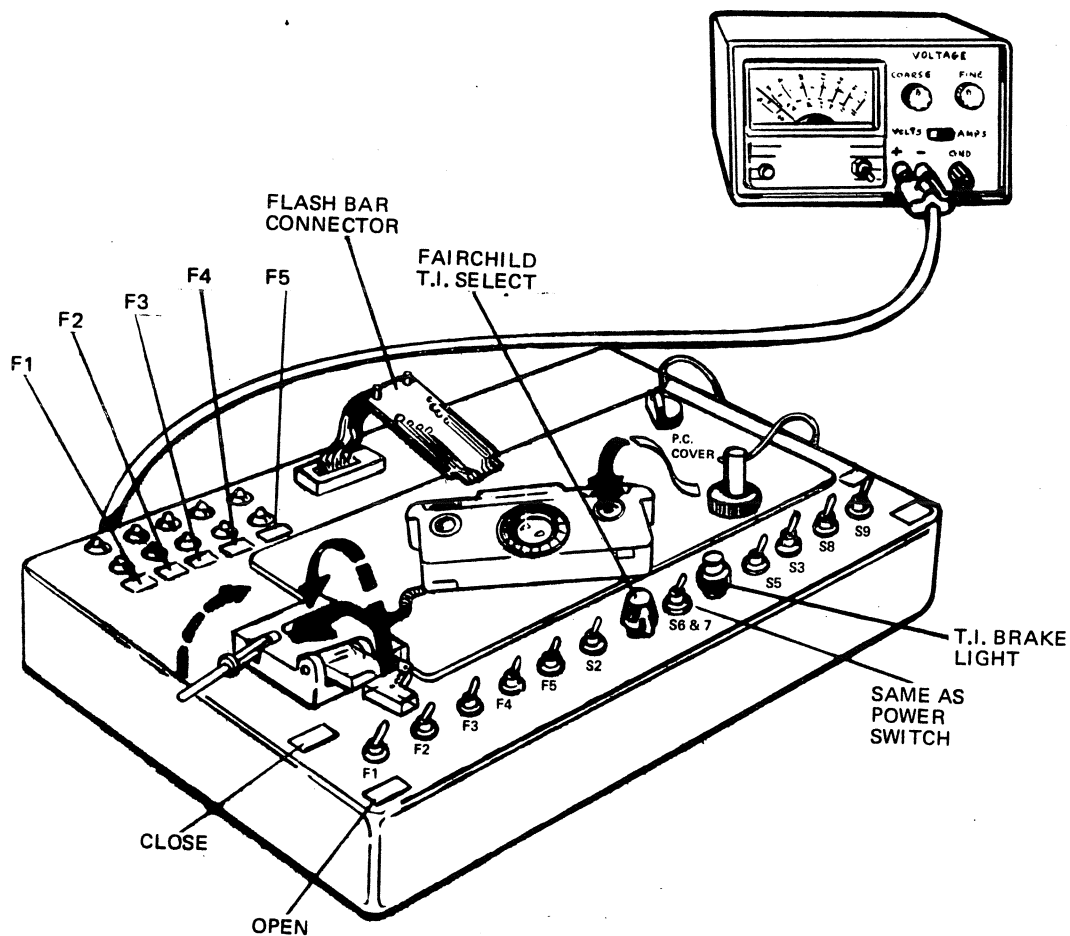

FIGURE 3-28 CAMERA BACK SIMULATOR SYSTEM
1. Connect the Camera Back Simulator, Figure 3-28, to a Hewlett-Packard #6213A power supply, or equivalent. Set the power supply output for 5.8 volts. Switch from VOLTS to AMPS on power supply.